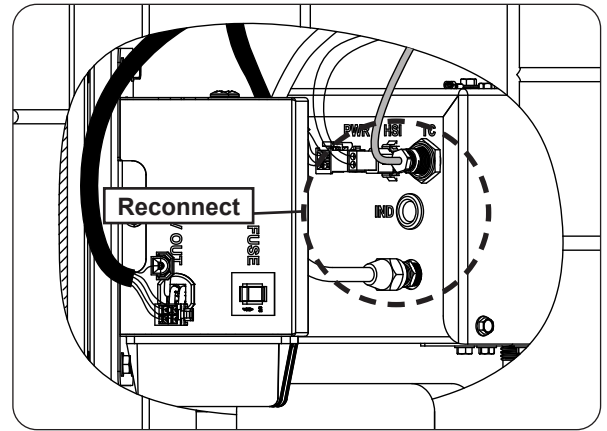

Fig. 31-1 Reconnect pilot line, thermocouple, and hot surface igniter
1. Reconnect the pilot line, thermocouple, and hot surface igniter (coming from the burner assembly) to the control box (see Fig. 31-1).